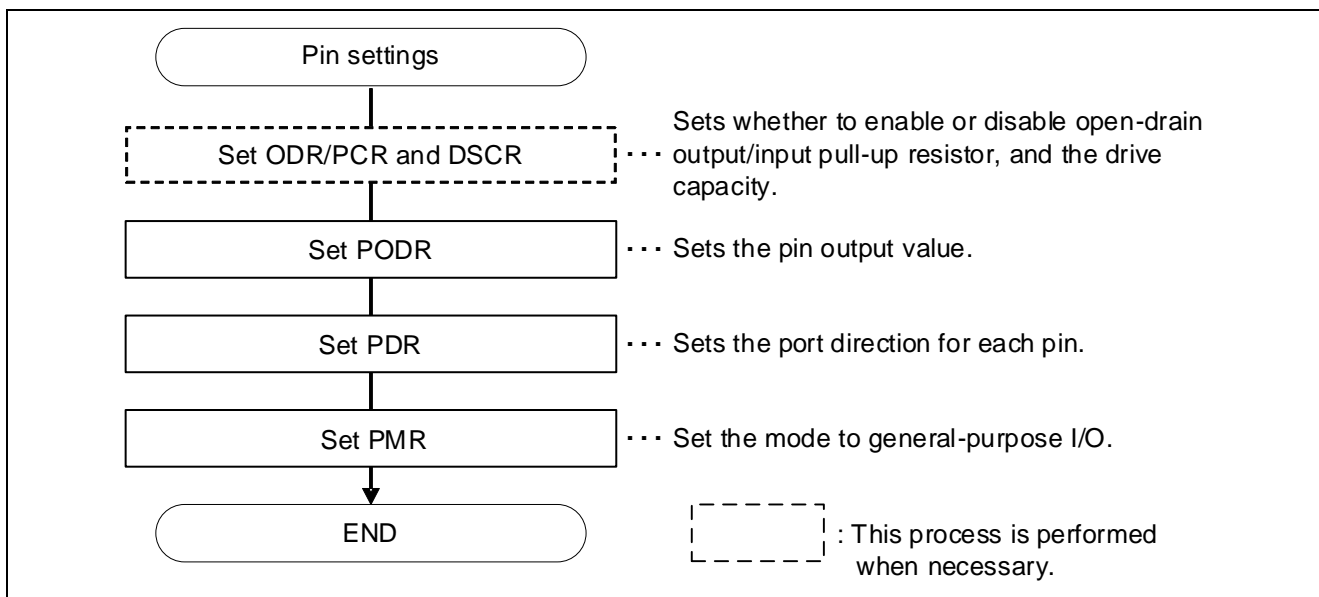

Figure 2.2 Sequence of Operations for Using a General-Purpose I/O Port on the RX231 Device
- Figure 2.2 shows an example of the settings for using a port as a general-purpose port.